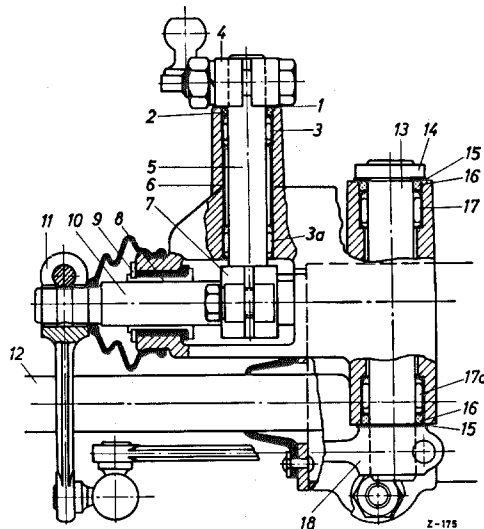

Fig. 26-2/1
The relay shaft (13) should have no end play in the bearing assembly. Replace the washers (15) by 0.6 mm spring washers, Part No. 121 990 00 48. It is imperative that the lever (14) should be firmly seated in the splines of the relay shaft (13). Loose levers should be electrically welded to the shaft. In order to ensure that the relay shaft has no end play whatsoever in the bearing assembly, the lever (14) and the relay lever (18) should be pressed against the bearing assembly by means of Clamping Device 180 589 05 31. Tighten the clamping screw in the relay lever (18) with the lever in this position. It is not sufficient to compress the levers by hand since this would not produce the required initial tension of the spring washers (Fig. 26-2/1).